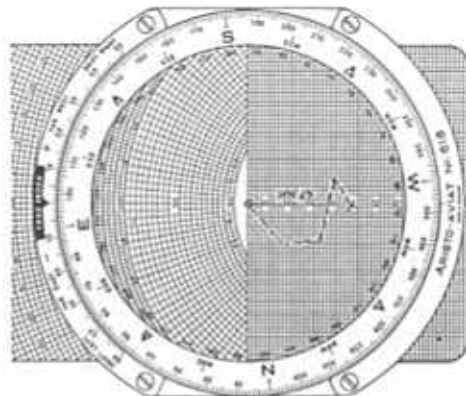

Fig. 54
**Reading:** Direction of DR position 97° opposite TRUE INDEX. Distance from starting point 47 NM along center axis (fig. 54).